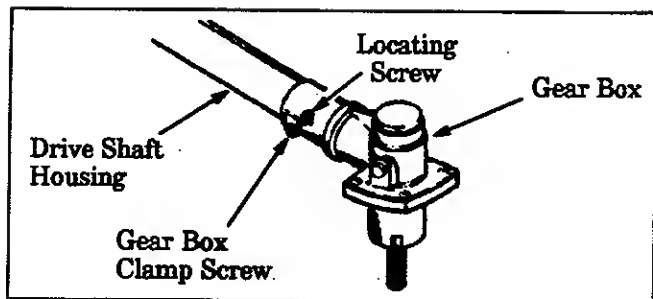

Figure 31
1. Remove the Gear Box Clamp Screw and the Locating Screw from the Gear Box. Figure 31.
2. Remove the Gear Box from the Drive Shaft Housing. Figure 31.